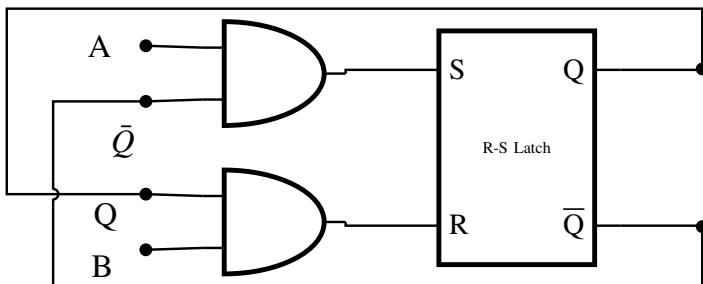

Fig. 5.35
40. The two inputs A and B are connected to an R-S latch via two AND gates as shown in Fig. 5.35. If  $A = 1$  and  $B = 0$ , the output  $Q\bar{Q}$  is